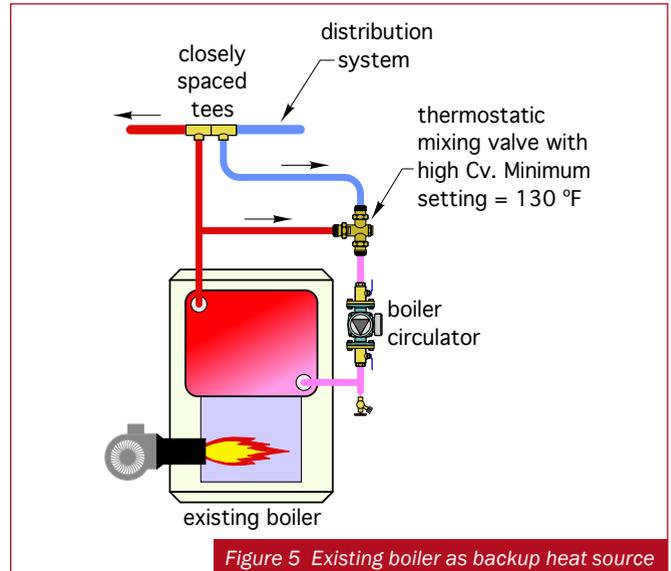

Figure 5 Existing boiler as backup heat source
5. If the existing conventional boiler will be retained for use as a backup heat source for the low temperature system, be sure the boiler is protected against sustained flue gas condensation by installing a thermostatic mixing valve near the boiler as shown in Figure 5.